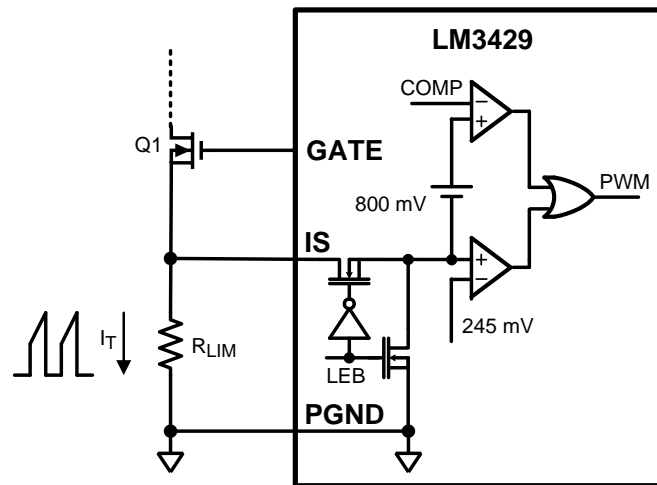

Figure 17. Current Sense / Current Limit Circuitry
The LM3429 achieves peak current mode control using a comparator that monitors the MosFET transistor current, comparing it with the COMP pin voltage as shown in Figure 17. Further, it incorporates a cycle-by-cycle overcurrent protection function. Current limit is accomplished by a redundant internal current sense comparator. If the voltage at the current sense comparator input (IS) exceeds 245 mV (typical), the on cycle is immediately terminated. The IS input pin has an internal N-channel MosFET which pulls it down at the conclusion of every cycle. The discharge device remains on an additional 250 ns (typical) after the beginning of a new cycle to blank the leading edge spike on the current sense signal. The leading edge blanking (LEB) determines the minimum achievable on-time ( $t_{ON-MIN}$ ).